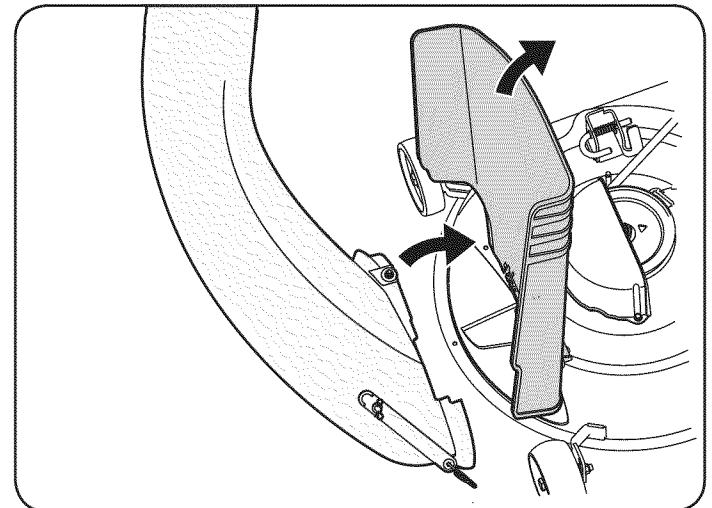
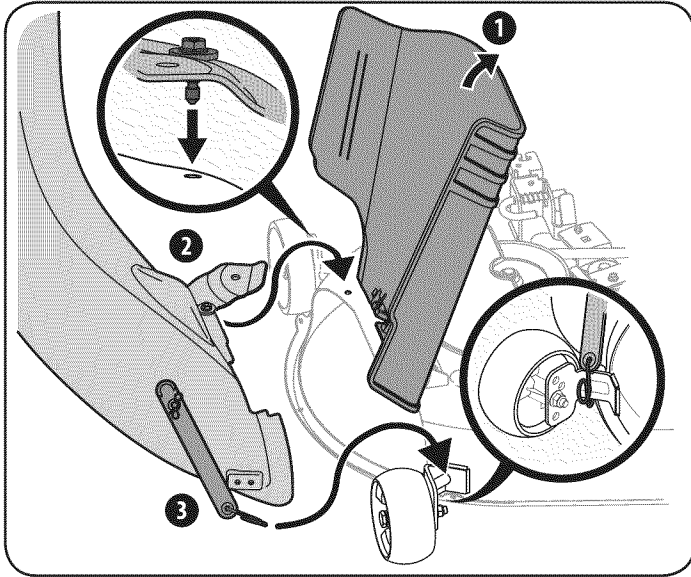

Figure 19
Figure 20
2. Install the deck mounting pin (711-05049) up into the chute elbow using two flat washers (936-0176) from hardware pack 689-00313 and secure with a flange lock nut (912-3027), as seen in Figure 19.
3. With the tractor's discharge chute raised up and held open, install the chute elbow over the chute opening by placing the deck mounting pin in the hole provided, as seen in Figure 19, then secure the elbow to the deck by hooking the retainer strap torsion spring hook over the deck wheel mounting bracket as seen in Figure 20.